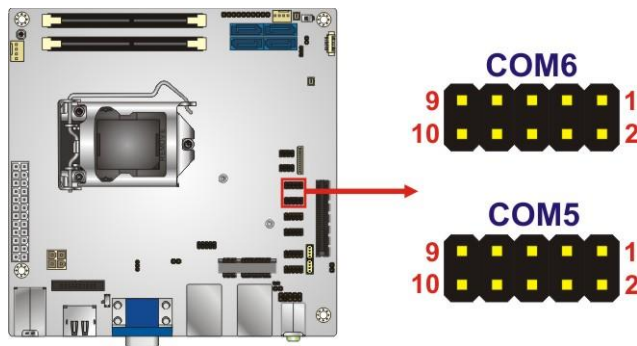

Figure 3-21: RS-232/422/485 Connector Locations
- CN Location:** See **Figure 3-21**